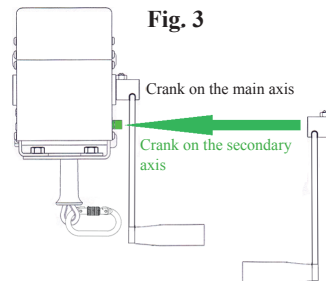

Fig. 3
3. Install the crank on the secondary axis (in green colour on Fig 3)
6. To use it again in normal use, the crank must be put again on the main axis in its first direction (as indicated on fig 3).